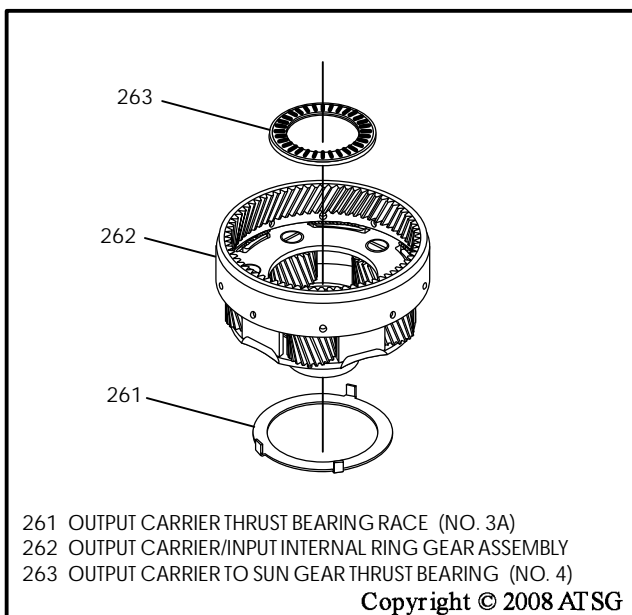

Figure 110
7. Install number 3A thrust bearing race on back side of output carrier, as shown in Figure 110, and retain with small amount of Trans-Jel®.
8. Install number 4 thrust bearing in front side of output carrier, as shown in Figure 110, retain with a small amount of Trans-Jel®.